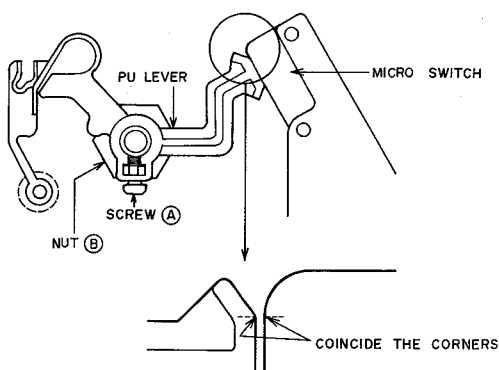

Fig. 6-3
6-3. RETURN ARM POSITION ADJUSTMENT (Refer to Figs. 6-3 & 6-4)
- 3) Turn the PU LEVER so that the corner of those PU LEVER and Micro switch are coincide as shown in Fig. 6-3.